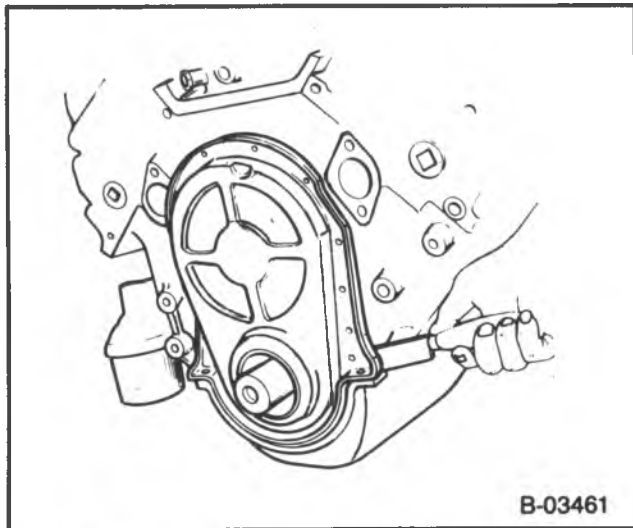

Figure 13 — Cutting the Front Oil Pan Seal
Remove or Disconnect (Figure 13)
- Pull the cover forward enough to permit cutting of the front oil pan seal (figure 13).
- Cut the front oil pan seal flush with the block on both sides (figure 13). Use a sharp cutting tool to ensure a clean cut.